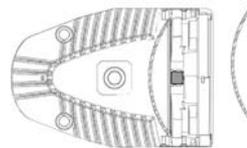

Figure 4
2. Hold the lens by the edge, and position it so the convex side faces the back of the fixture (**Figure 4**). Installing the lens with the convex side out will not impair the optics, but it will make removing the lens more difficult.